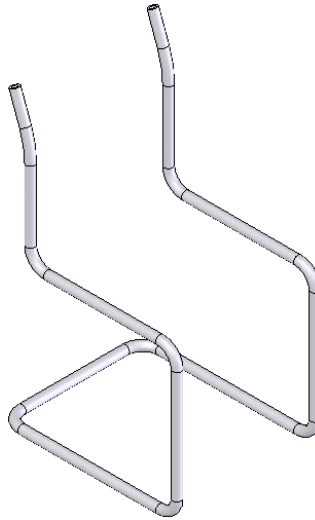
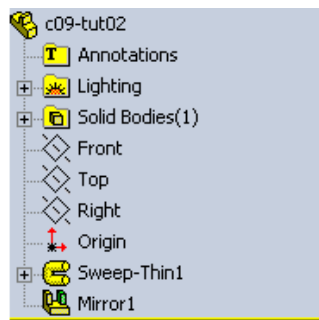

Figure 9-115 The final model
Figure 9-116 The FeatureManager Design Tree for Tutorial 2
- d. Mirror the sweep feature using the **Front** plane, refer to Figure 9-115.
7. Using the mirror tool, mirror the sweep feature along the **Front** plane. The model after mirroring is displayed in Figure 9-115. The **FeatureManager Design Tree** of the model is shown in Figure 9-116.